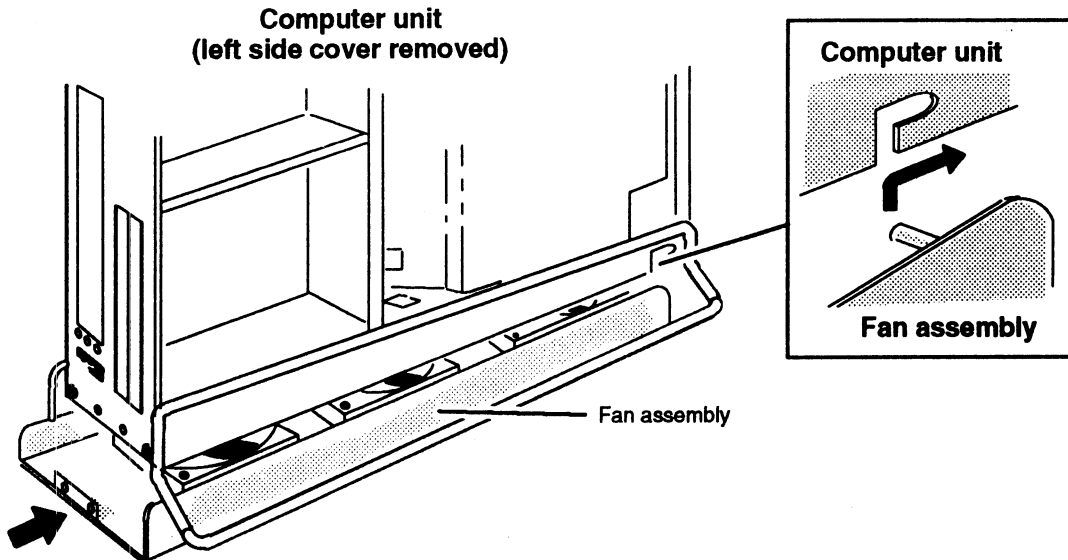

Figure 10-5 Installing the Fan Assembly in the Computer Unit
3. Insert the two pins on the fan assembly into the two slots on the bottom front of the computer unit as shown in Figure 10-5, and then push the fan assembly forward to secure it to the computer unit.